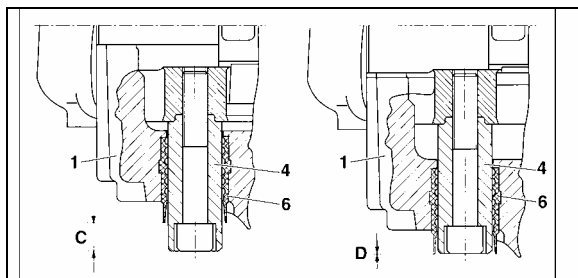

FIGURE 37: BRAKE PAD CHECK
Brake pads have to be checked on a regular basis depending on the vehicle operation. The remaining thickness of the pads should never be less than 3/32 inch (2 mm). To check pad condition without removing the wheel, verify the position of guide bushing (6) relatively to guide sleeve (4) (Fig. 37). When guide sleeve is in alignment with guide bushing, brake pad thickness must be checked more precisely with wheel removed. When replacing the brake pads, all four pads on an axle have to be changed at the same time. There is no inner or outer pad, since all pads are the same. Worn pads should be replaced in the same position.